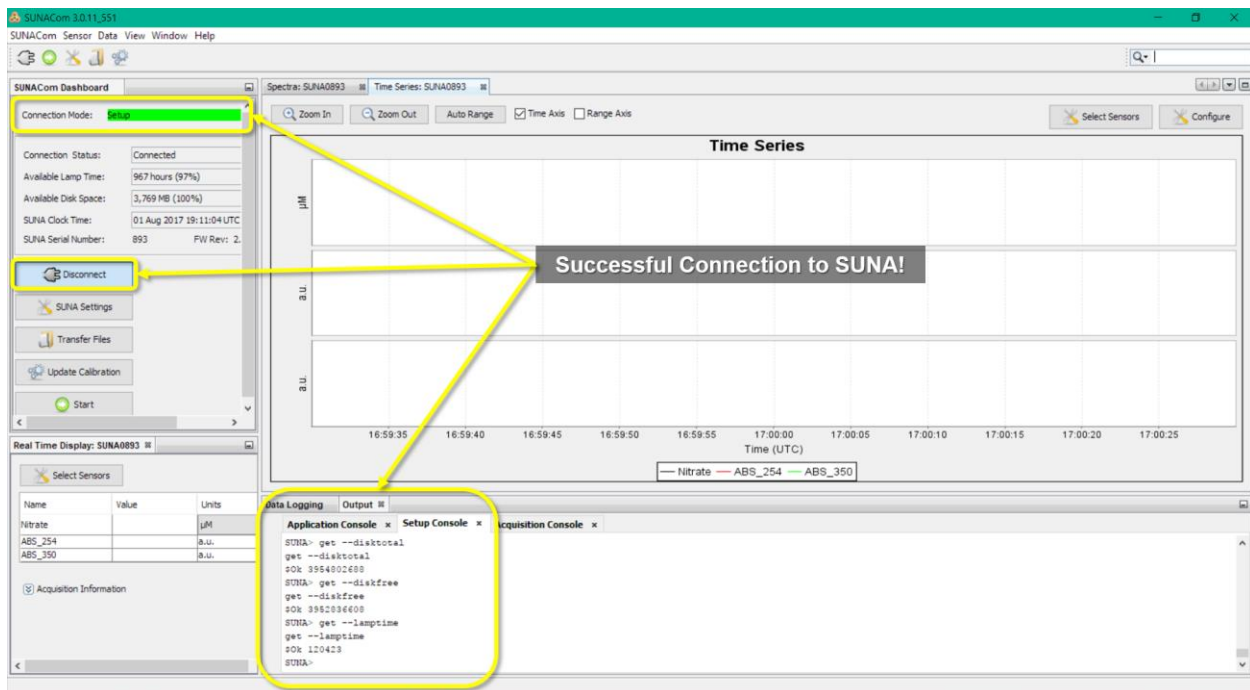

Figure 109. Successfully Connected to the SUNA
- The connection is successful with the **"Setup Console"** tab displays **"SUNA>"** and connection data is continuously scrolling up, and the **Connection Mode** is green (see Figure 109).